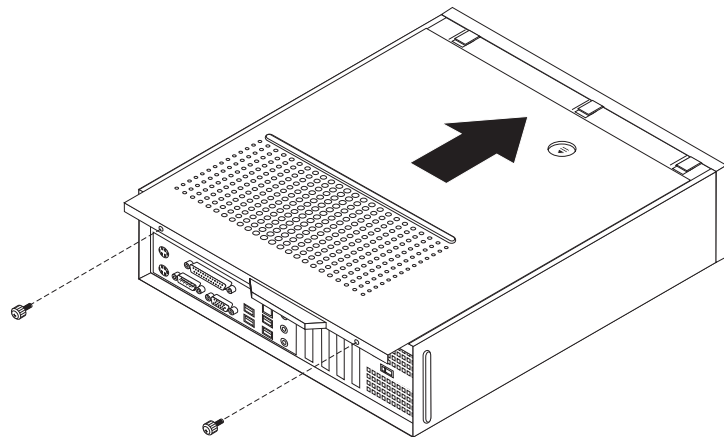

Figure 39. Sliding on the cover
5. Replace the computer cover and connect the power cord. See Figure 39 on page 31.